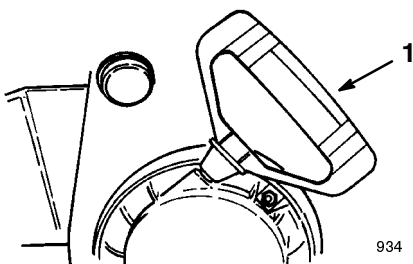

Figure 20
- **Recoil Starter** (Fig. 20)—The recoil starter is on the back side of the engine. Pull the recoil starter to start the engine.
7. Grasp the recoil starter handle (Fig. 20) and pull it out slowly until positive engagement results; then pull the handle vigorously to start the engine.